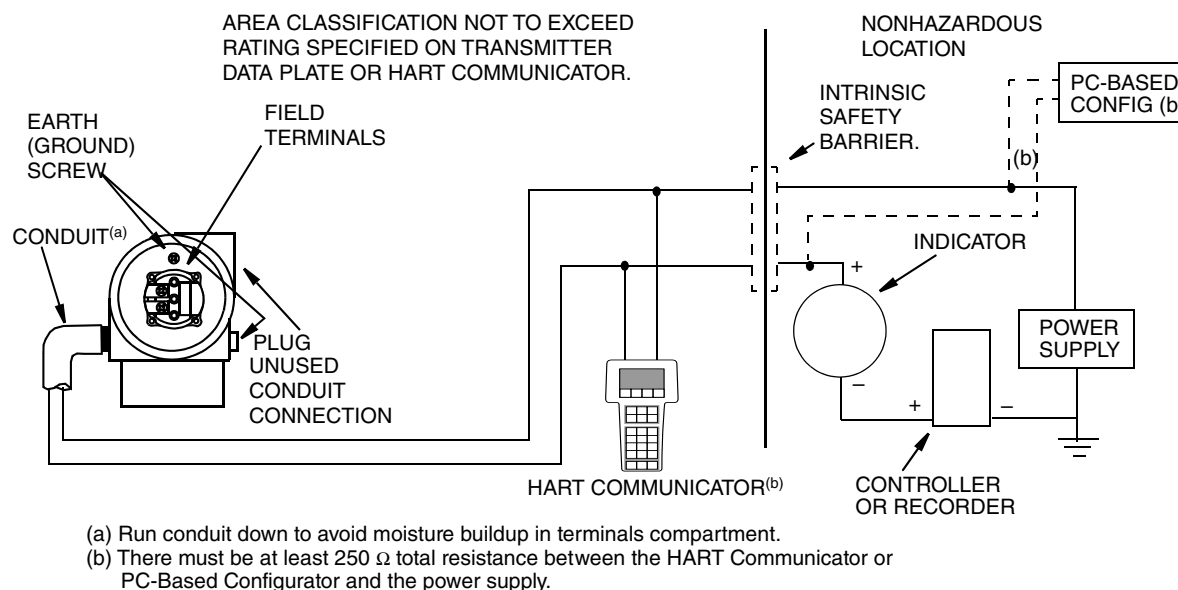

Figure 24. Loop Wiring Transmitters
7. Connect receivers (such as controllers, recorders, indicators) in series with power supply and transmitter as shown in Figure 24.
9. The HART Communicator or PC-Based Configurator can be connected in the loop between the transmitter and the power supply as shown in Figure 24. Note that a minimum of 250 Ω must separate the power supply from the remote configurator.